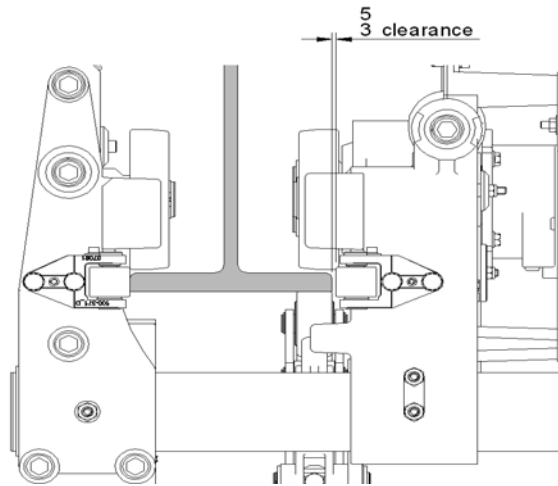

Figure 16 – Low Headroom Runway Clearance
- Push the panel side trolley onto the runway (tap with rubber / nylon mallet as necessary) until the gap between guide roller and toe of flange is between 3 and 5mm (see Figure 16). Check that the gap is the same at both ends.
Before setting the reaction roller ensure that the side guide rollers on the panel side trolley frame, i.e. the guide rollers on the same side as the reaction roller assembly, are in contact with the toe of the runway beam flange. For the setting operation the clearance between the side guide rollers and the runway flange must be on the barrel side (note this is on the **opposite** side to that shown in Figure 16).